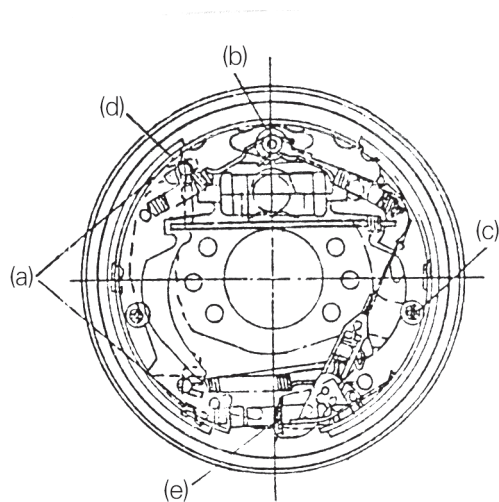

Fig.8-22 Lub. points in brake for 3ton and 3.5ton trucks
(4) Apply No.2 calcium-base grease on the a, b, c, d and e points indicated in Fig.8-21and Fig.8-22, with care not to contaminate the friction piece with grease.